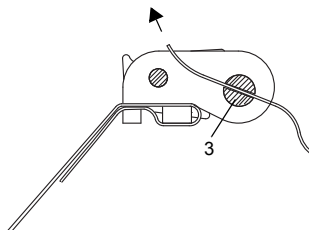

Fig. 9.42: Ratchet clasp with tension strap
- Insert the long end of the tension strap into part 3 of the ratchet clasp (see Fig. 9.42).